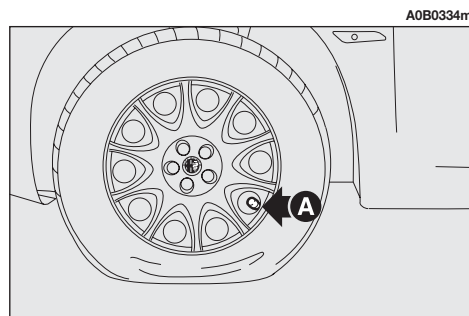

fig. 13
**1)** Place the wheel in the position illustrated in the figure (**A-fig. 13**) for the operation with the valve, **then engage the handbrake.**